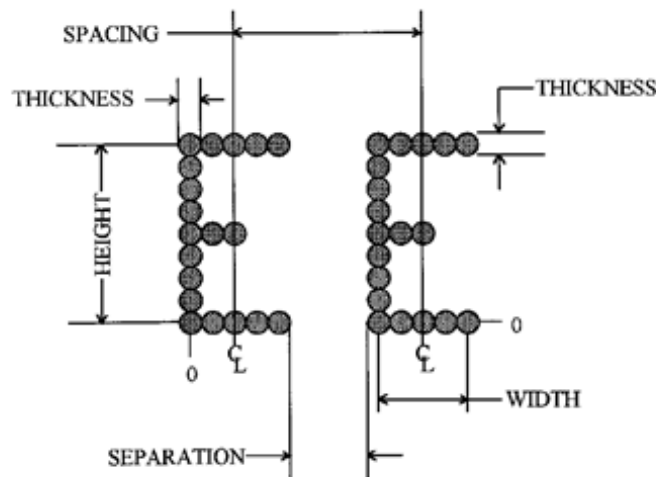
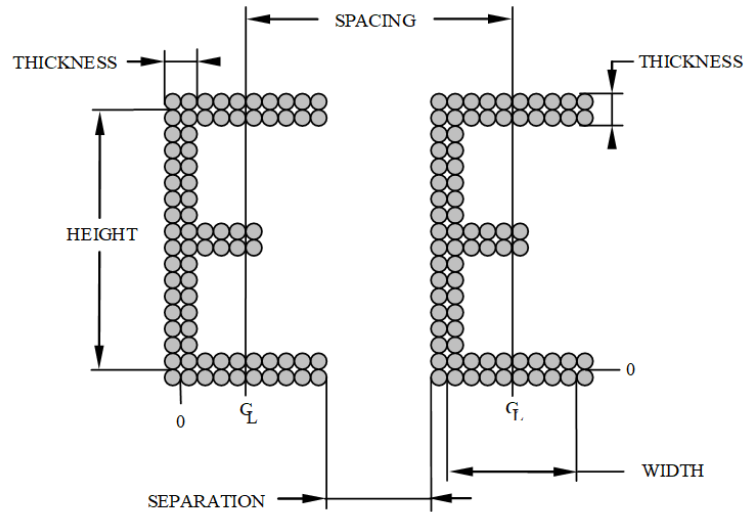

Figure 1
Figure 2
5.1 Dot matrix method shall be used to write characters. The minimum matrix shall be 5 dots horizontal and 9 dots vertical as shown in Figure 1. More dots may be used up to and including a solid line.
NOTE 1: Double density is recommended to achieve improved readability. An example of double density is shown in Figure 2.
5.2 *Character Dimensions and Spacing* — Refer to Table 1 and Table 2, and Figure 1 and Figure 2.
5.2.1 *Single Density Characters* — Figure 1 shows the SEMI OCR font in single density mode, using a dot matrix of 5 dots horizontal and 9 dots vertical.
5.2.2 *Double Density Characters* — Figure 2 shows the SEMI OCR font in double density mode, using a dot matrix of 10 dots horizontal and 18 dots vertical.